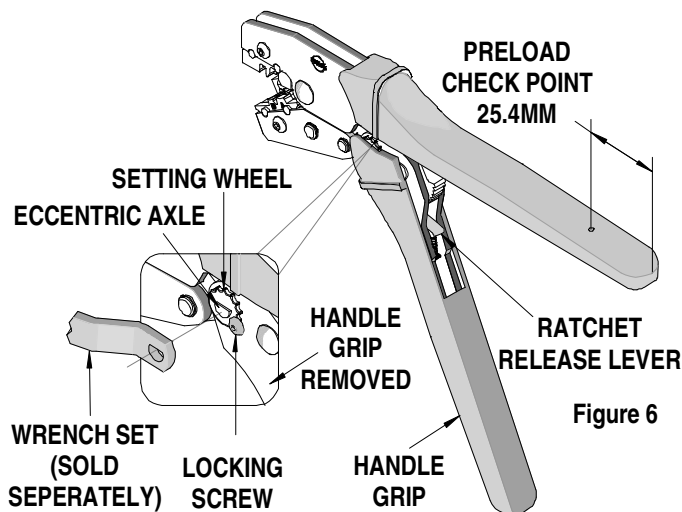

Figure 6
3. Make certain all pins; pivot points and bearing surfaces are protected with a thin coat of high quality machine oil. Do not oil excessively. The tool was engineered for durability but like any fine piece of equipment it needs cleaning and lubrication for a maximum service life of trouble free crimping. Light oil such as 30 weight automotive oil used at the oil points, every 5,000 crimps or 3 months, , shown in Figure 6 will significantly enhance the tool life.
Should this tool ever become stuck or jammed in a partially closed position, **Do Not force the handles open or closed**. The tool will open easily by pressing the ratchet release lever. See Figure 6.
How to Adjust Tool Preload (See Figure 6)